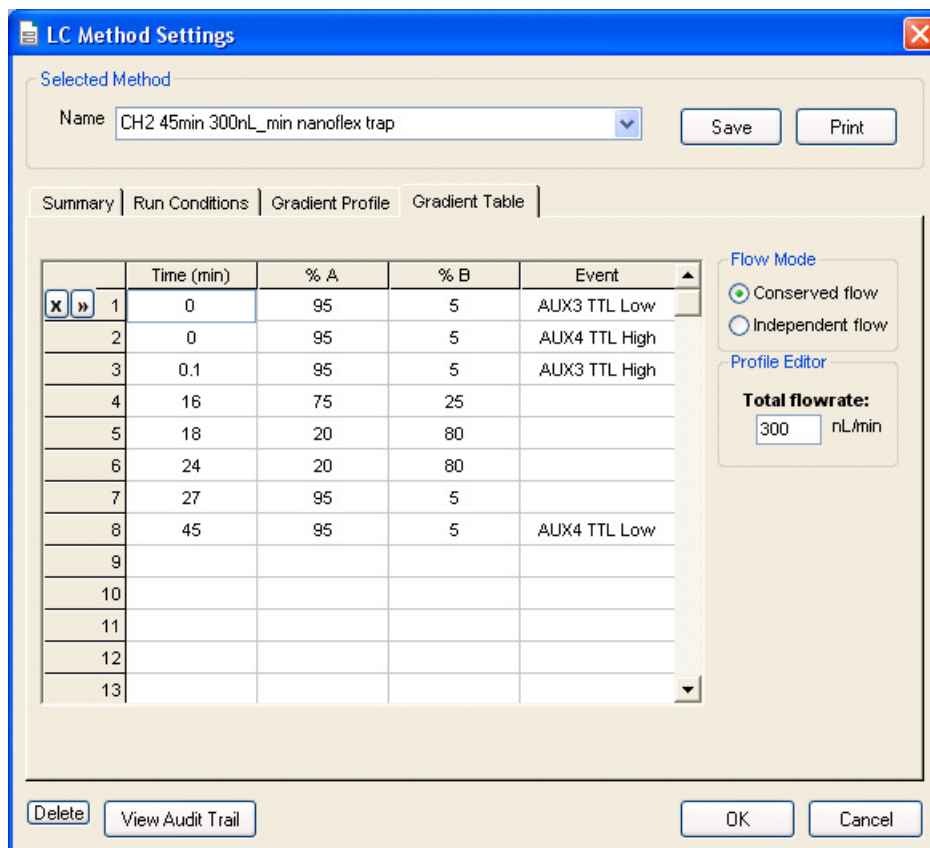
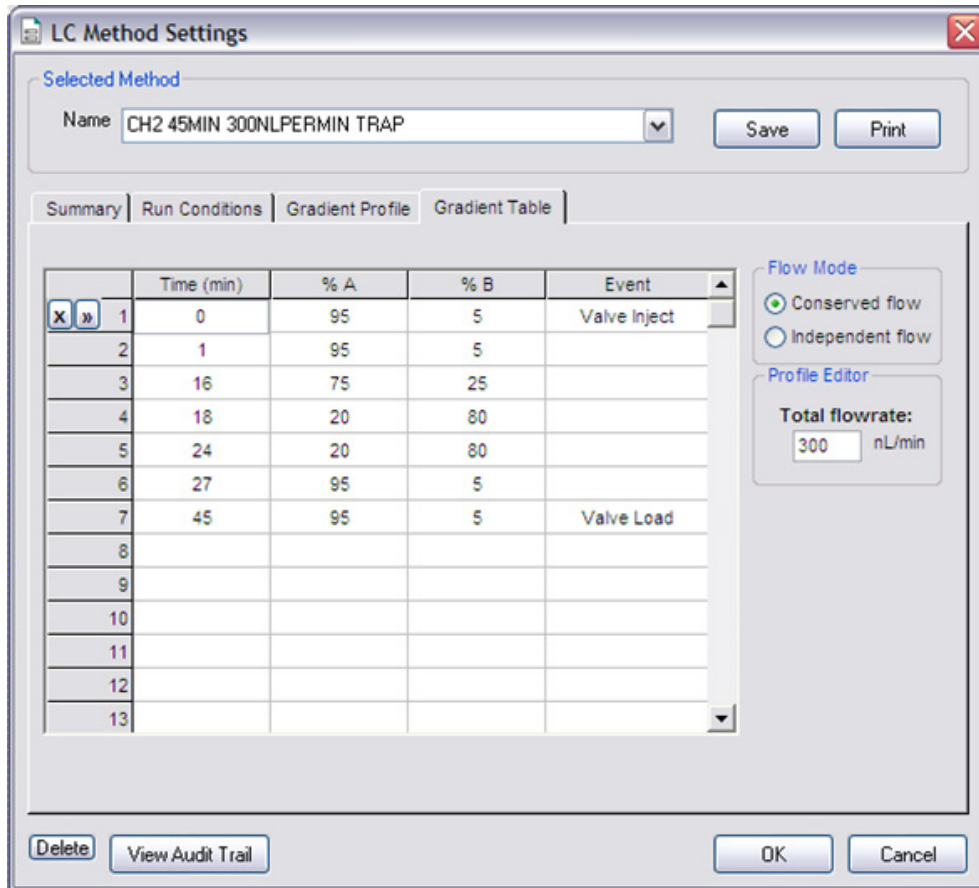

Figure 3-16 LC Method Settings dialog—Gradient Table tab (Nanoflex system)
Figure 3-17 LC Method Settings dialog—Gradient Table tab (column)
4. On the **Gradient Table** tab, specify the method, as shown in Figure 3-16 or Figure 3-17, depending on the installation.